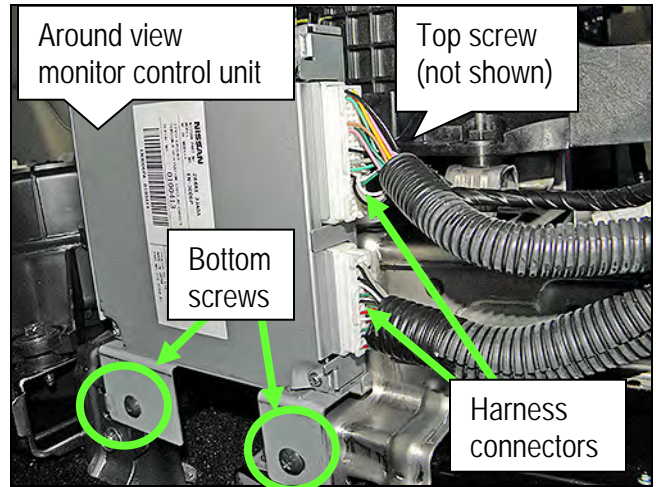

Figure 39B
22. Remove the around view monitor control unit from the center console brace (Figure 39B).